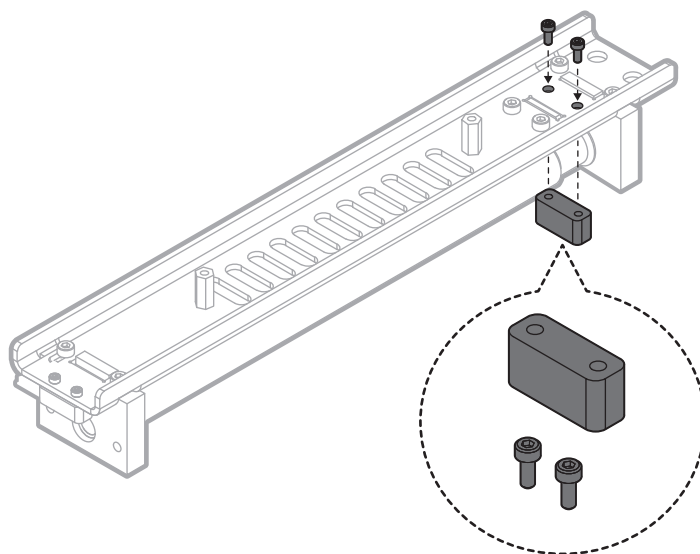

Fig. 10 Screwing the Driver slider to Recoater.
21. Screw the Driver slider into the recess, above the knurled roller. Use the two M3x6mm screws from the supplied kit and the 2.5 mm allen key (fig. 10).